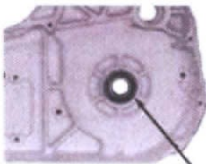

Fig. 3
3. Grease the support bearing & install seal, included with kit or remove inner primary and install sealed bearing that is also supplied with kit. (Fig. 3 & 4)